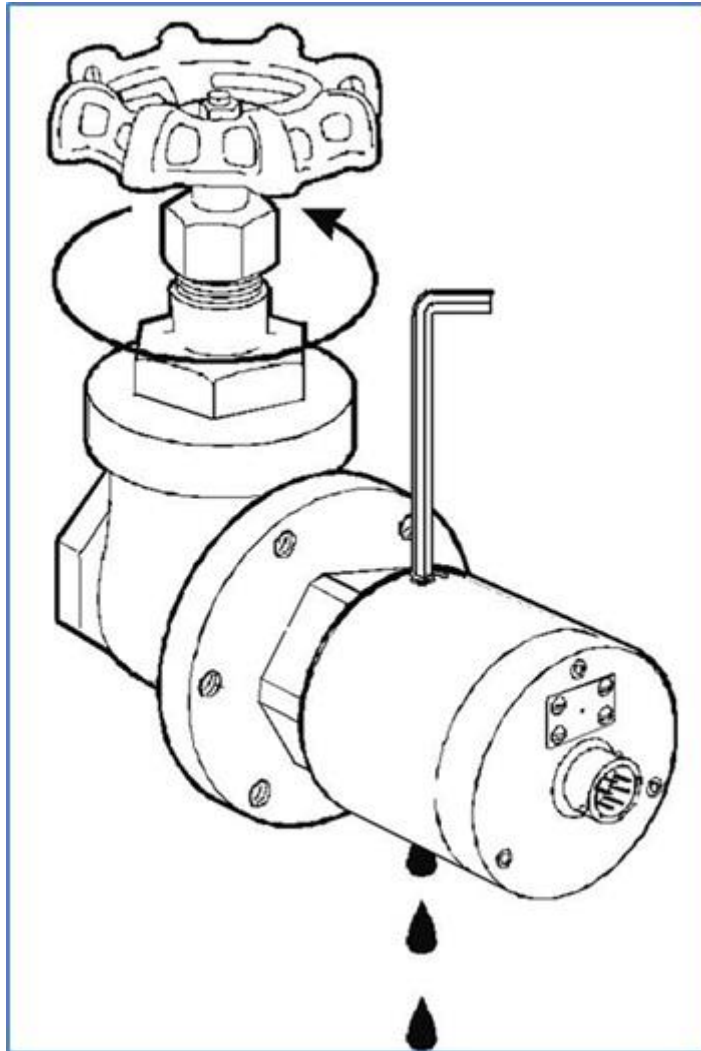

Figure 7-7: Purging Air from the Hydran 201 Sensor
2. Slowly open the transformer valve until oil leaks out of the sensor's sampling port (see Figure 7-7)